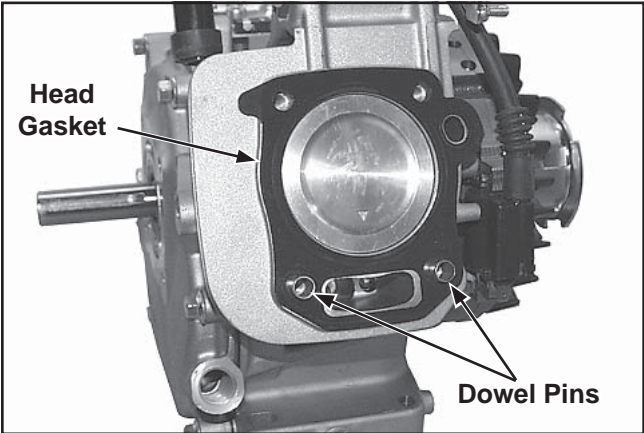

Figure 11-46. Installing Dowel Pins and New Head Gasket.
3. Install the dowel pins into the recesses around the lower cylinder head bolt holes. See Figure 11-46.